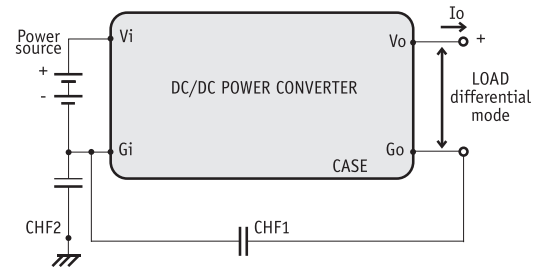

Fig 5 : Capabilities of HF capacitance connections for measuring output differential mode
- The first way is to short out the input and the output from G_i to the return lead G_o to ground with a high frequency capacitance (fig 5: CHF and CHF2)